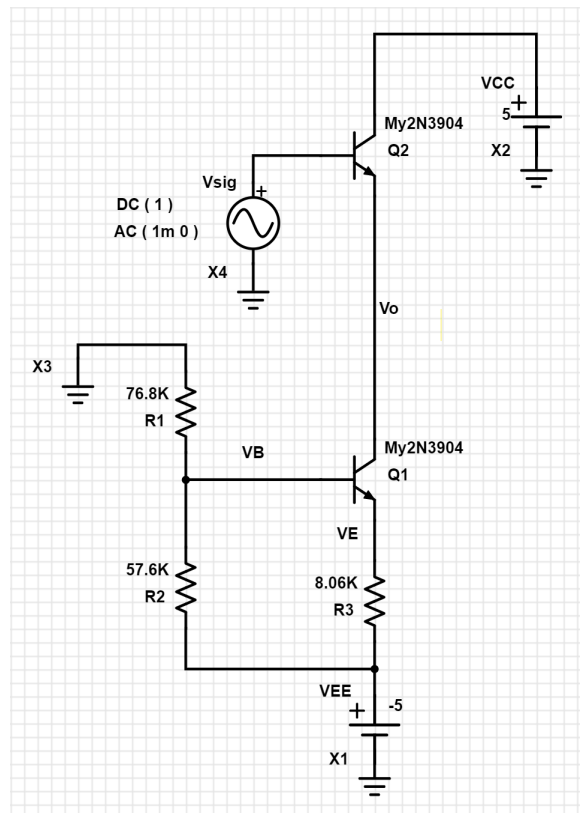
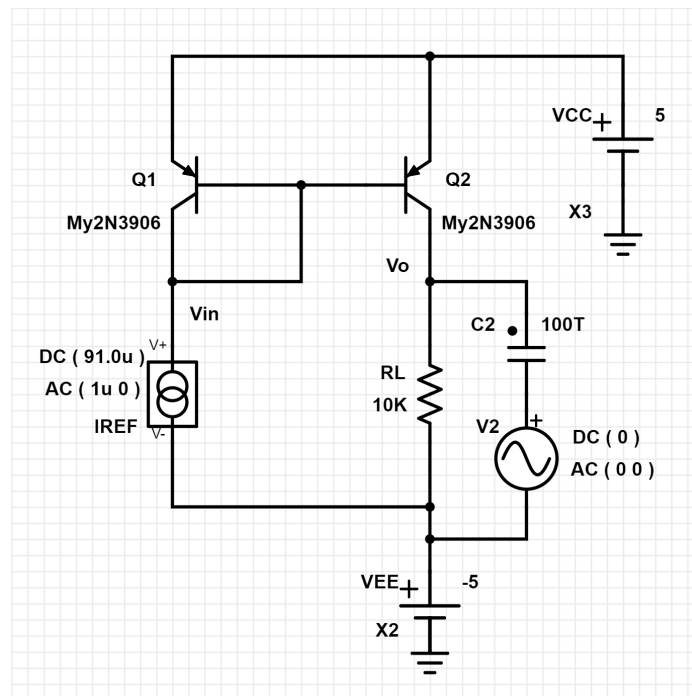
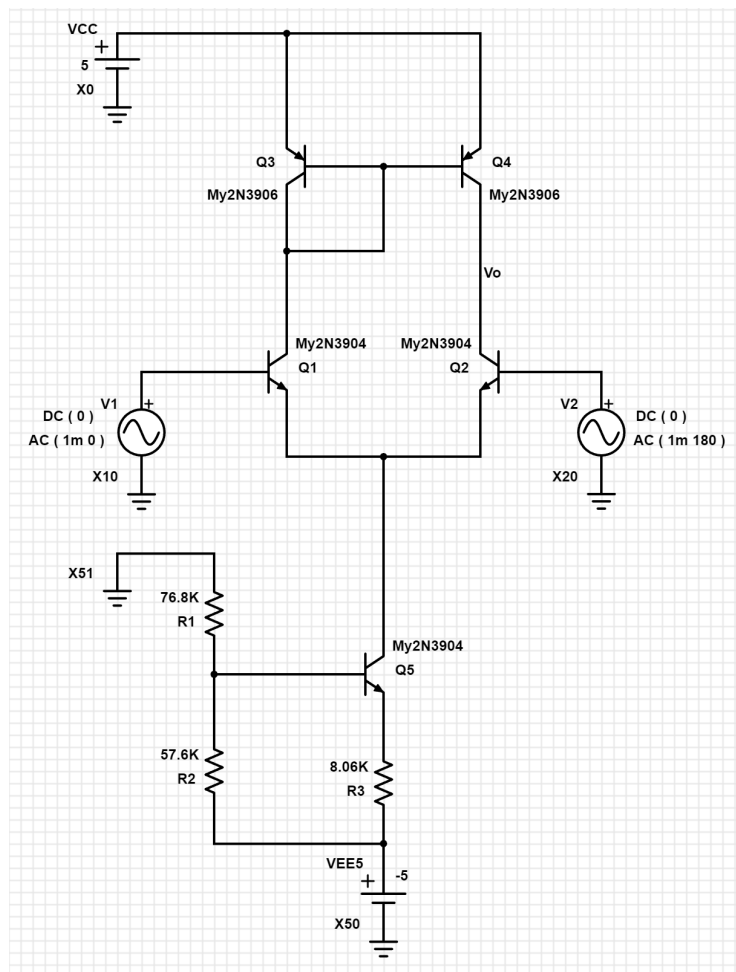

Fig. 1 Schematic diagram of the common-collector (CC) amplifier
Fig. 3 Schematic diagram of the current mirror for the AC analysis
Fig. 4 Schematic diagram of the differential amplifier with a CM load for differential-mode analysis
- 1.1 In PartSim (LTspice or PSpice), construct the CC amplifier, as shown in Fig. 1, using an NPN-BJT 2N3904 and the current sink characterized in Fig. 3. Here, V_{sig} provides the required DC bias for Q_2 and the AC signal for the CC amplifier.
- 1.4 Based on Fig. 1, construct the measurement setup for the common-collector (CC) amplifier. Use $V_+ = 5\text{V}$ for V_{CC} , $V_- = -5\text{V}$ for V_{EE} , and Wavegen 1 (W1) for V_{sig} . Connect GNDV+, GNDV-, and GNDW1 to a common ground line.
- 2.4 As shown in Fig. 3, construct the circuit in PartSim (LTspice or PSpice). Here C_2 is a dummy bypass capacitor with 100 TF, and V_2 is a dummy AC voltage source as the port 2 stimulus used in the AC analysis.
- 3.1 In **PartSim** (**LTspice** or **PSpice**), construct a differential amplifier, as shown in Fig. 4, using the current mirror (CM) load characterized in Part 1.
- 3.2 **Frequency Response:** Set the DC values of V_1 and $V_2 = 0$ V and their AC amplitude 1 mV. For the differential-mode signal, set the phases of the AC signal V_1 and V_2 to be 0° and 180° , respectively, as shown in Fig. 4. In this setting, the differential-model signal $v_{id} = V_1 - V_2 = 1$ mV $- (-1$ mV) = 2 mV. Conduct AC analysis for V_o in DEC with **Start Frequency = 100 Hz**, **Stop Frequency = 100 kHz**, and **Total Points Per Decade = 101**. Choose **REAL** for magnitude unit and **degree (DEG)** for phase unit. **Record the measured $|V_o|$ and $\angle V_o$ in the sheet “Step 3.2” of the Excel file “Lab 3 – Multi-Stage Amplifier.xlsx”.**
- 3.4 Based on Fig. 4, construct the measurement setup for the differential amplifier with a current mirror load. **Tip:** Replace the two 8.25 k Ω resistors in Lab 2 with the current mirror.
- 3.9 **Multi-stage Amplifier Gain:** Connect the output (the collector of Q_2 in Fig. 4) of the differential amplifier to the input (the base of Q_2 in Fig. 1) of the common-collector (CC) amplifier to form a multi-stage (or 2-stage) amplifier. Connect Scope Ch. 2 Positive (2+) to V_o (the emitter of Q_2 in Fig. 1). Run workspace script “Lab3_Step3.7.dwf3work” again with the same W2Offset value set in Step 3.7. Display the measurement results using the Scope function in WaveForms. Use Y Cursors to set their upper and lower peak values and the Ref function to calculate the difference. Record the measured peak-to-peak amplitudes of Scope Ch. 1 Positive (1+) and Scope Ch. 2 Positive (2+) in the sheet “Step 3.9” of the Excel file “Lab 3 – Multi-Stage Amplifier.xlsx” to calculate the differential-mode voltage gain A_{vd} in dB. Copy and paste the screenshot of the measurement results to replace the one in the sheet “Step 3.9” of the Excel file “Lab 3 – Multi-Stage Amplifier.xlsx” to support your calculation. Make sure to capture the date and time of your PC in the screenshot.